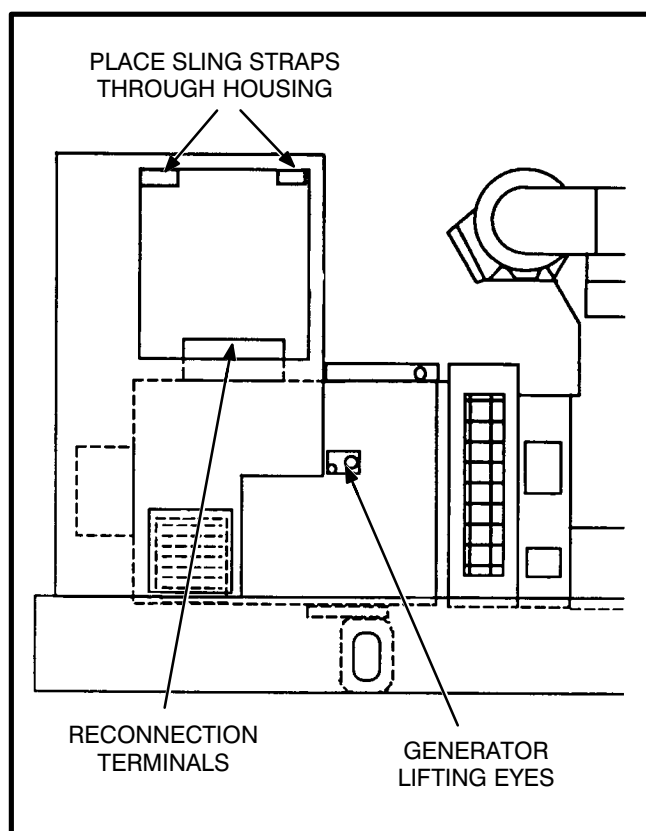

FIGURE 5-8. REMOVING CONTROL HOUSING
4. Disconnect all load wires from the reconnection terminal block assembly (see Figure 5-8). If equipped with the circuit breaker option, disconnect load wires from circuit breaker. Check that all leads are labeled to ease reassembly.
5. Disconnect all wire leads from the auxiliary terminal block, inside conduit box (see Figure 5-8), that would interfere with control housing removal. (Example: exciter stator leads X and XX.) Before disconnecting, check wire markings for legibility to ease reassembly.
7. Use a hoist or similar lifting device to support the control housing assembly (see Figure 5-8).